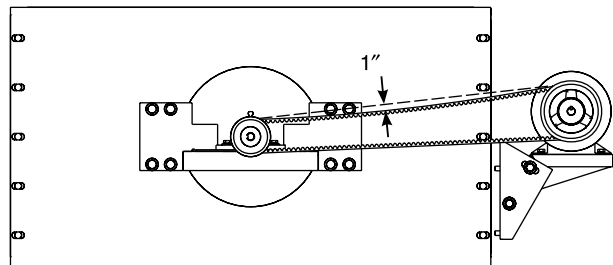

Figure 4-41.
2. The fan belt should deflect no less than 1" (25mm) at the center (Figure 4-41) and have no cracks or excessive wear.